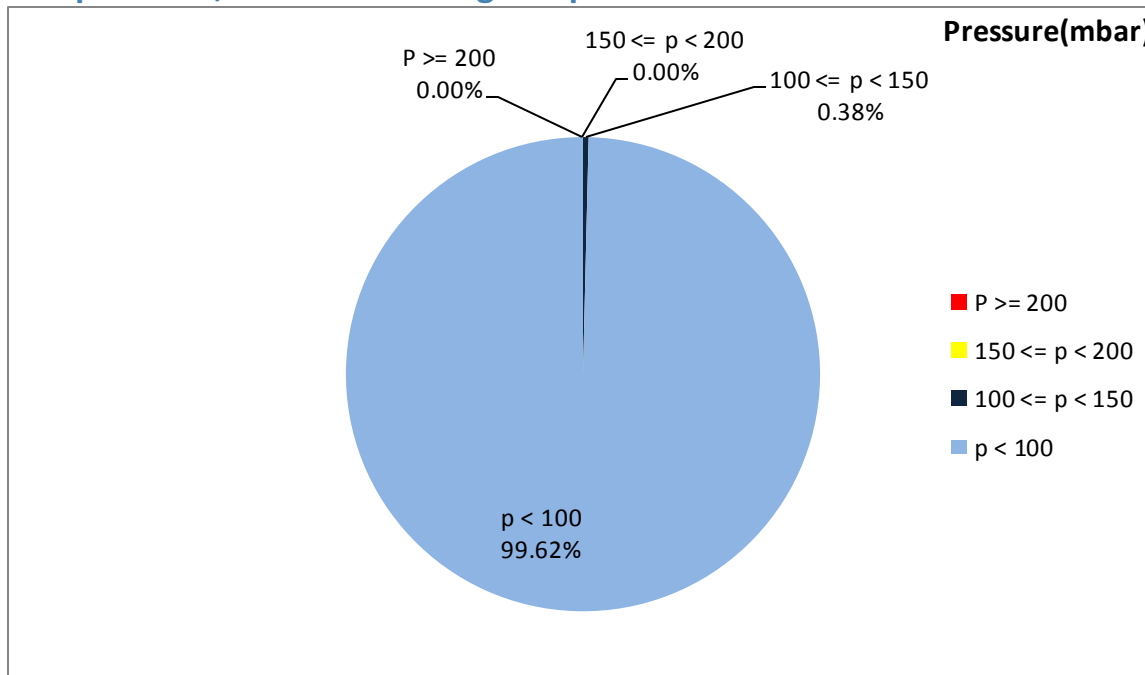

Figure 1- Pressure distribution over the working hours
- As depicted in figure 1, only 0.38% of working time pressure was above 100 mbar during this period.